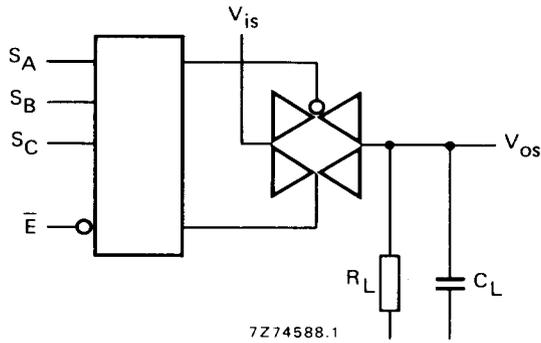

Fig. 8.
- $R_L = 10 \text{ k}\Omega$ to V_{EE} ; $C_L = 50 \text{ pF}$ to V_{EE} ; $\bar{E} = V_{SS}$; $V_{is} = V_{DD}$ (square-wave); see Fig. 8.
- $R_L = 10 \text{ k}\Omega$; $C_L = 50 \text{ pF}$ to V_{EE} ; $\bar{E} = V_{SS}$; $S_n = V_{DD}$ (square-wave); $V_{is} = V_{DD}$ and R_L to V_{EE} for t_{PLH} ; $V_{is} = V_{EE}$ and R_L to V_{DD} for t_{PHL} ; see Fig. 8.
- $R_L = 10 \text{ k}\Omega$; $C_L = 50 \text{ pF}$ to V_{EE} ; $\bar{E} = V_{DD}$ (square-wave); $V_{is} = V_{DD}$ and R_L to V_{EE} for t_{PHZ} and t_{PZH} ; $V_{is} = V_{EE}$ and R_L to V_{DD} for t_{PLZ} and t_{PZL} ; see Fig. 8.
- $R_L = 10 \text{ k}\Omega$ to V_{EE} ; $C_L = 15 \text{ pF}$ to V_{EE} ; \bar{E} or $S_n = V_{DD}$ (square-wave); crosstalk is $|V_{os}|$ (peak value); see Fig. 8.